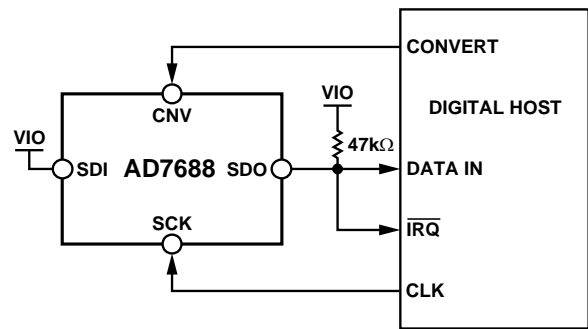
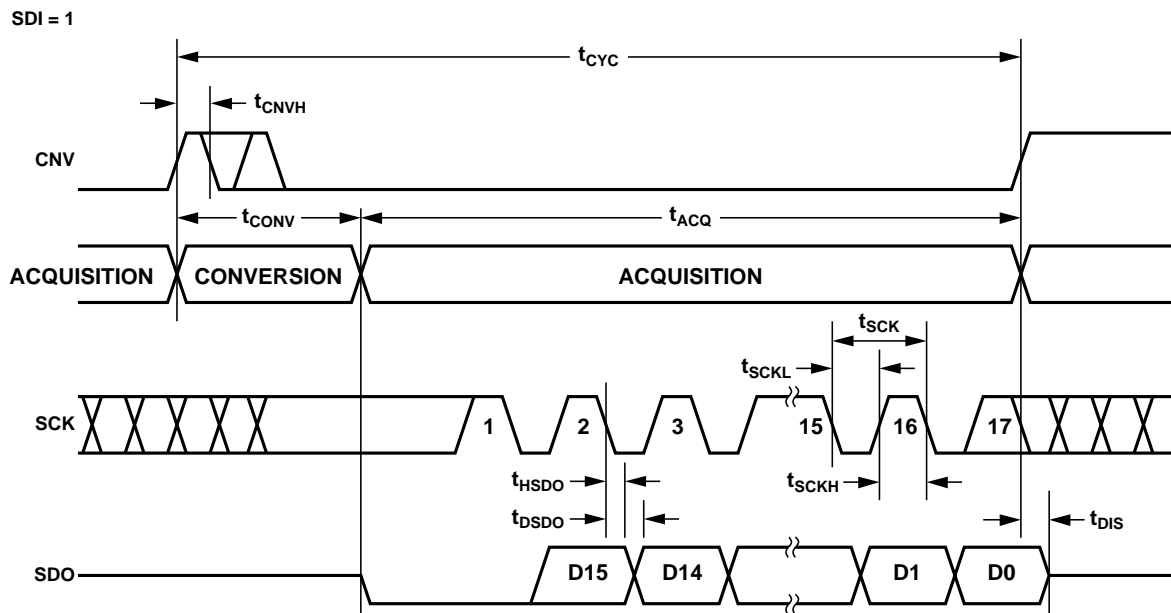
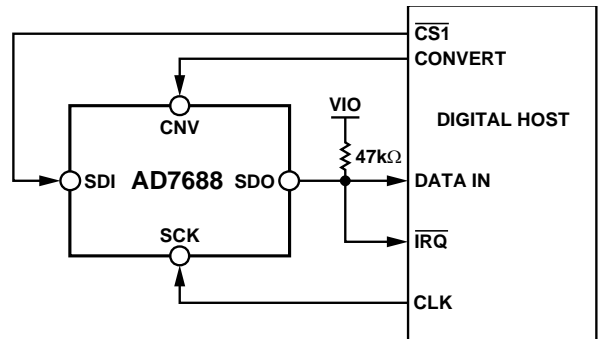
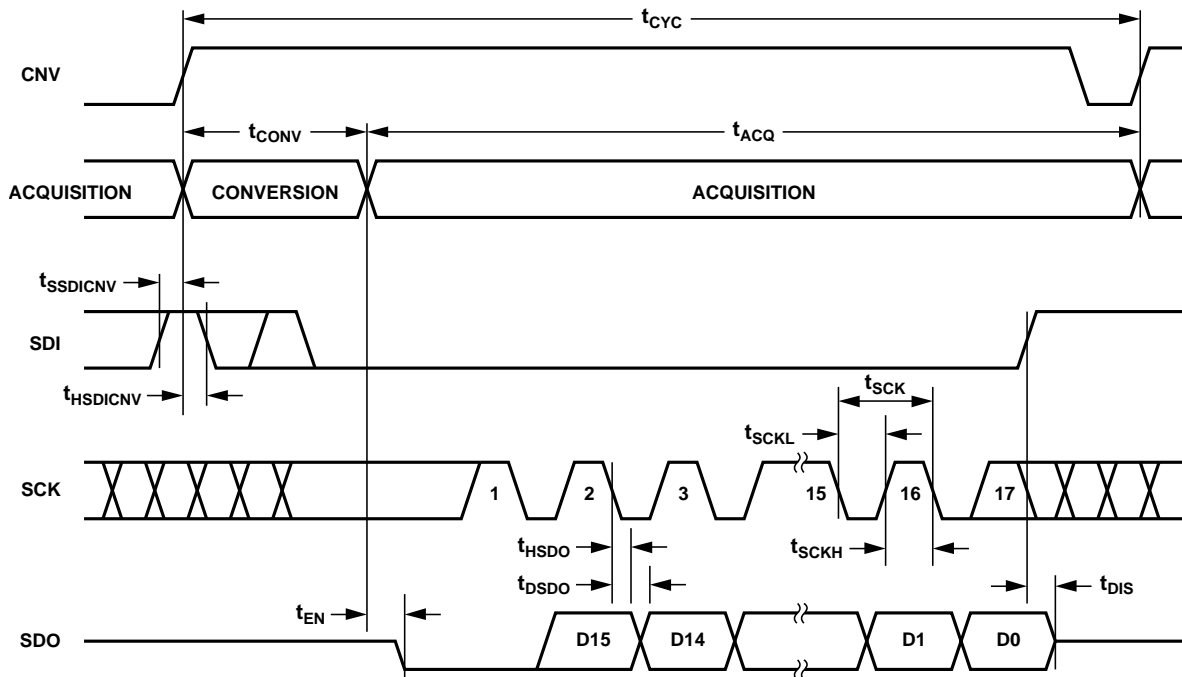

Figure 36.  $\overline{CS}$  Mode 3-Wire with BUSY Indicator Connection Diagram (SDI High)
Figure 37.  $\overline{CS}$  Mode 3-Wire with BUSY Indicator Serial Interface Timing (SDI High)
Figure 40. CS Mode 4-Wire with BUSY Indicator Connection Diagram
Figure 41. CS Mode 4-Wire with BUSY Indicator Serial Interface Timing
- In the  $\overline{\text{CS}}$  mode, if CNV or SDI is low when the ADC conversion ends (Figure 37 and Figure 41).
The connection diagram is shown in Figure 36 and the corresponding timing is given in Figure 37.
The connection diagram is shown in Figure 40 and the corresponding timing is given in Figure 41.